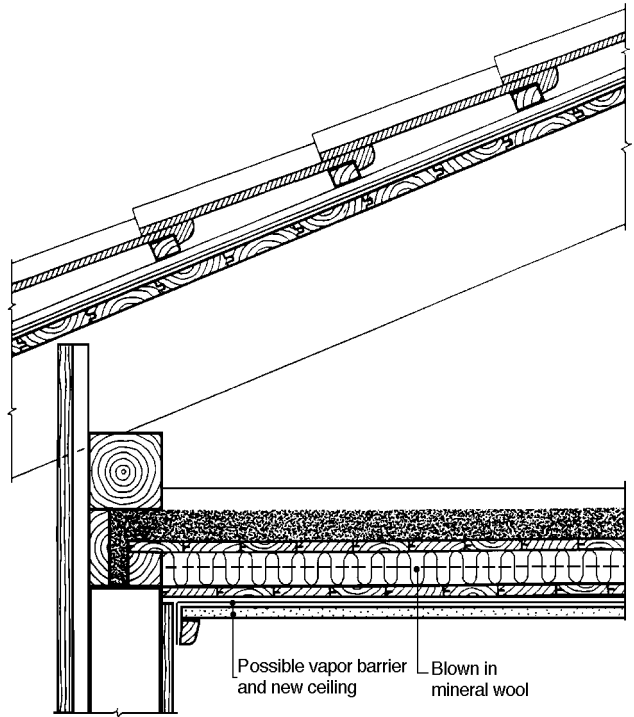

Figure 2.13
2.13 If the space between the existing ceiling and the attic is at least 50 mm (2 in), it may be possible to blow mineral wool into the hollow space (Figure 2.13). Before doing so, however, an expert should look over the condition of the roof to avoid damage. The pneumatic placement of mineral wool must be done by special companies employing trained professionals.